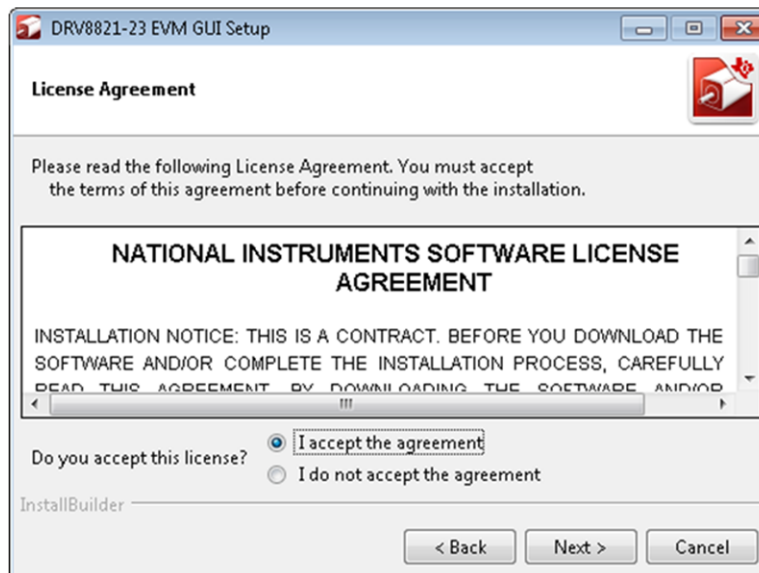

Figure 6. NI License Agreement
4. A screen as shown in Figure 6 appears, displaying the license agreement of National Instruments. Please read through the agreement carefully and enable the “I Accept the License Agreement” radio button and press the **Next** button.